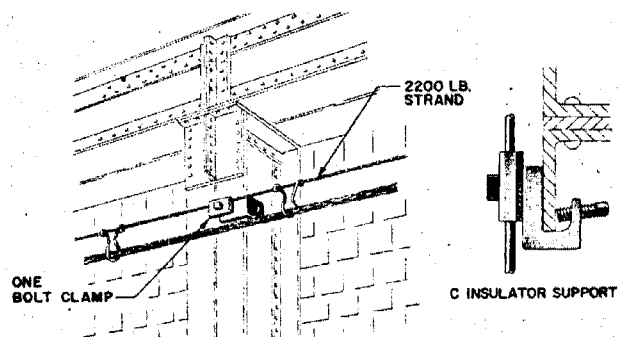

Fig. 10—C Insulator Support and One Bolt Clamp
- C insulator support (Fig. 10) will accommodate T knobs, one bolt clamps, and B or M bridle rings. It can be attached to steel structures up to 1 inch in thickness.